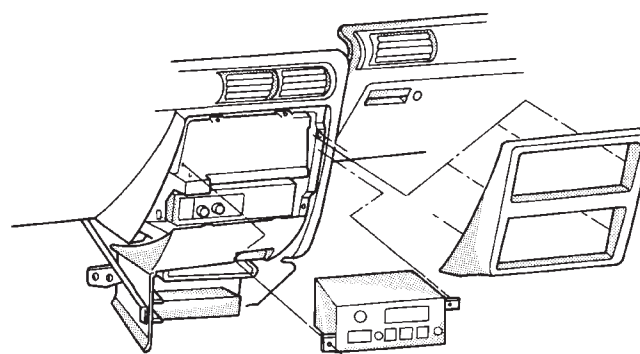

Fig. 4 Radio Assembly
(2) Remove two radio mounting screws (Fig. 4).
(3) Pull radio from panel and disconnect wiring, ground strap and antenna lead from radio.
(4) Remove radio.
(5) For installation reverse above procedures.